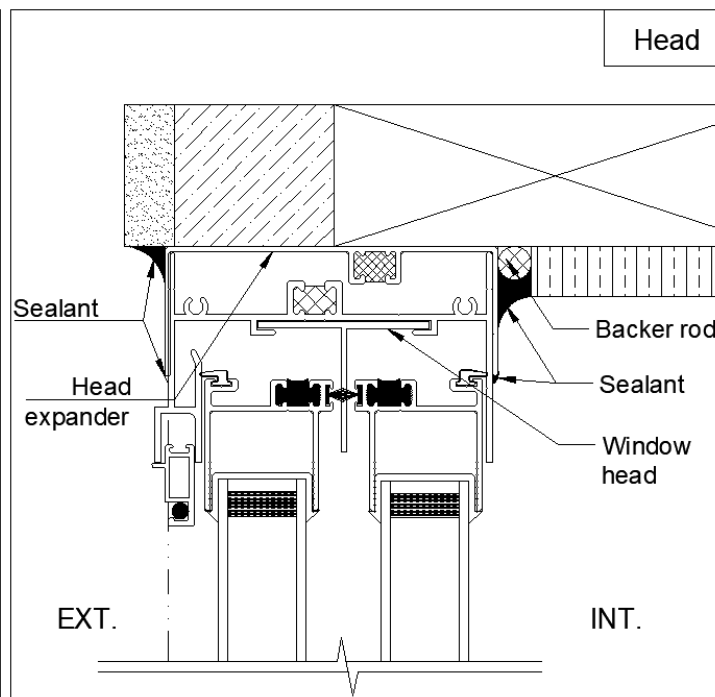

Figure 4: Side View of Head
2.3 Move up the head expander on the window head if necessary, make sure there's no gap between the window frame and opening (refer to figure 4). Check the sill is level, both jambs are plumb. Measure the diagonals of window frame to check the squareness, the difference of diagonals should be within 1/8".